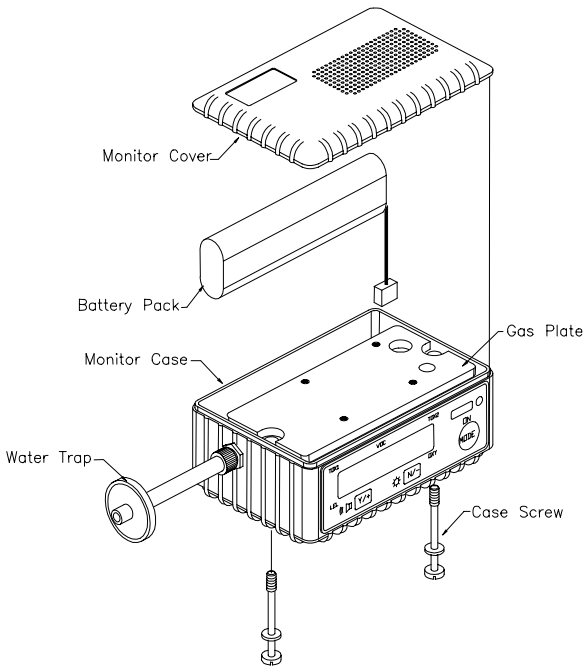

Figure 7-1 Main Components of MultiRAE PLUS
As shown in Figure 7-1, the major maintenance items of MultiRAE PLUS are:
2. Refer to Figure 7-1, unscrew the two captured case screws from the bottom of the monitor case and remove the **MultiRAE PLUS** cover.
2. Refer to Figure 7-1, open the monitor cover by unscrewing the two captured screws from the bottom of the monitor case. **Disconnect the battery pack.**
2. Refer to Figure 7-1, open the monitor cover by unscrewing the two case screws from the bottom of the monitor case. **Disconnect the battery pack.**